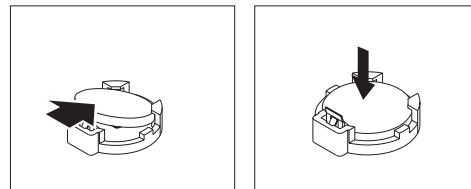

Figure 29. Inserting the battery
7. Insert the new battery (see Figure 29):